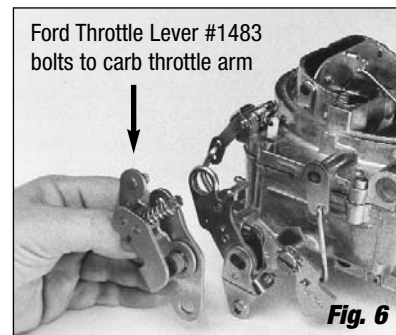

Fig. 6
- must be installed in the proper location. Chrysler vehicles with automatic transmission will require Throttle Lever Kit #1481. Ford vehicles with automatic transmission and cable linkage will require Throttle Lever Kit #1483 (See Fig. 6) and Throttle Cable Plate Kit #1490 (for 289-302), #1491 (for 351-W), #1493 (for 351-C & 351-M/400), or #1495 (for 429/460).